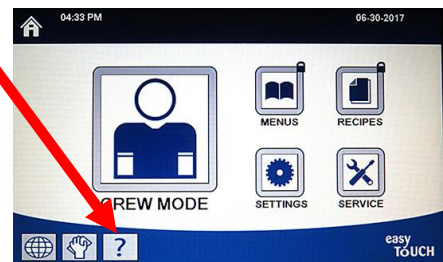

Figure 29
3. Press the **?** button (see Figure 29).